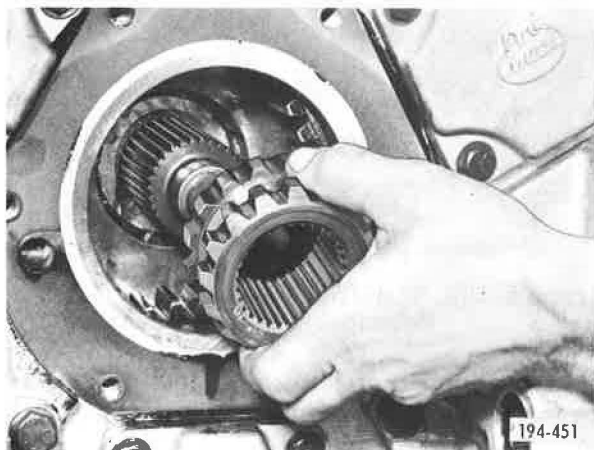

Figure 5-107. Installing Fourth/Fifth Speed Sliding Clutch
23. Install fourth and fifth speed sliding clutch on splines of pinion, and engage with fourth speed gear. See Figure 5-107.